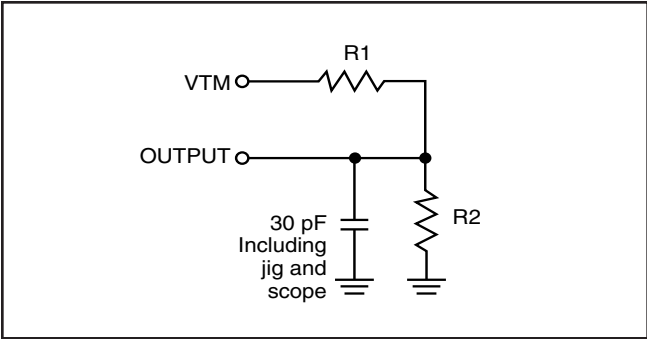

Figure 1
| Output Load                                    | See Figures 1 and 2           | See Figures 1 and 2           |
1. Test conditions assume signal transition times of 5 ns or less, timing reference levels of 0.9V, input pulse levels of 0.4 to 1.4V and output loading specified in Figure 1.
1. Test conditions assume signal transition times of 5 ns or less, timing reference levels of 0.9V, input pulse levels of 0.4V to 1.4V and output loading specified in Figure 1.